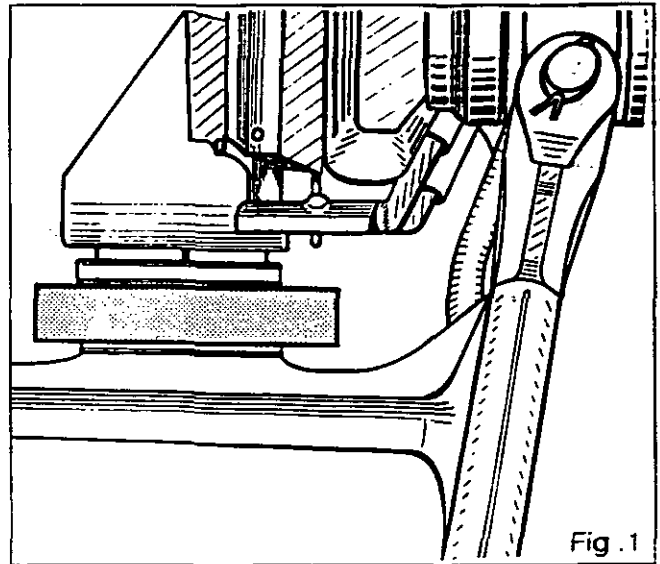

Fig. 1
**Note: Place a block between the cab and the trumpets (Fig. 1).**